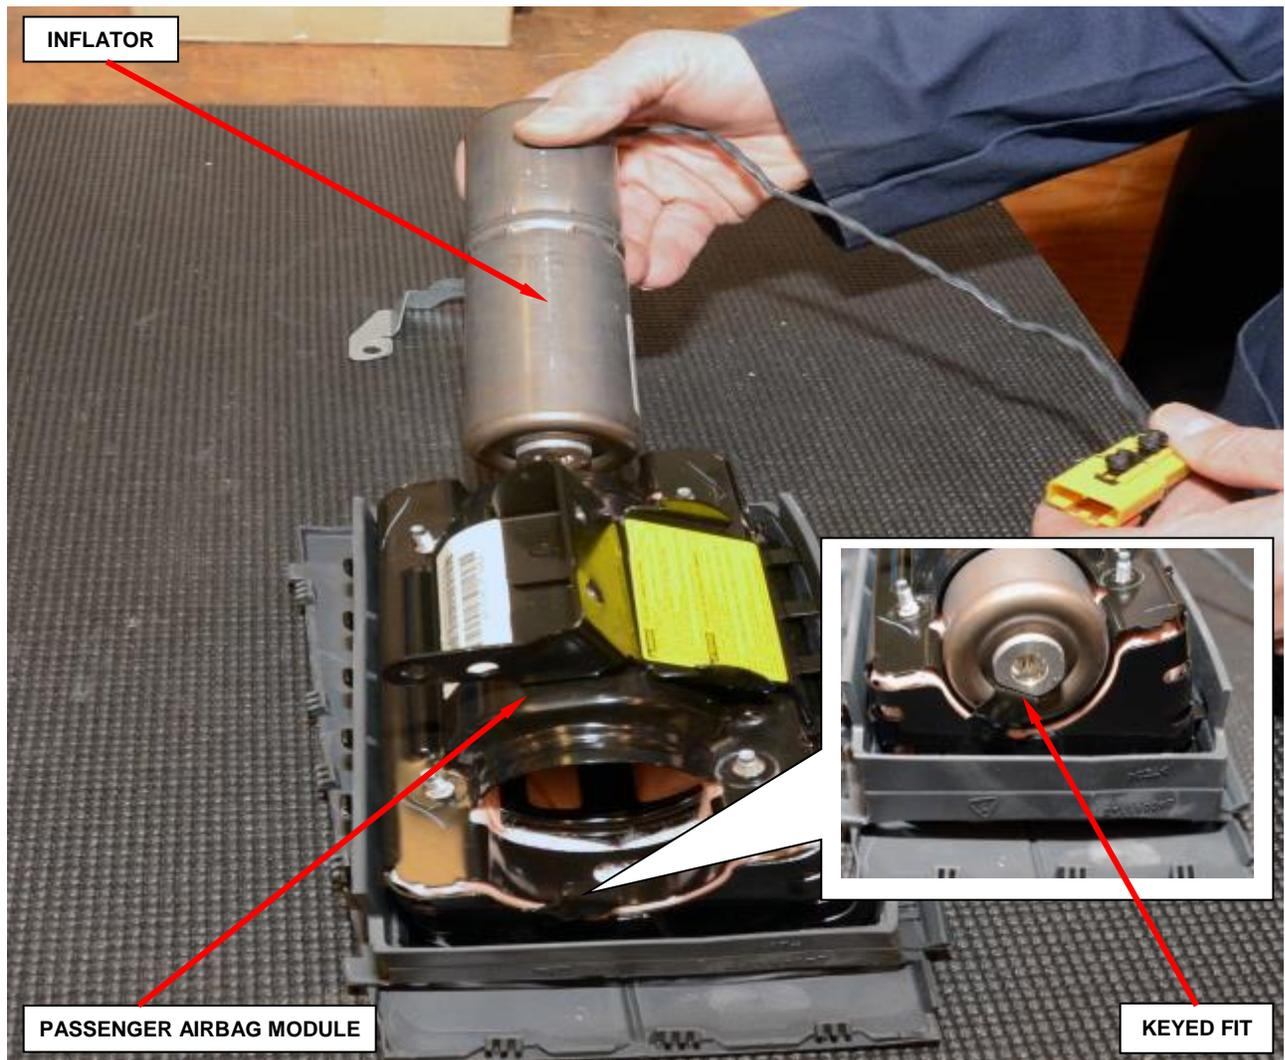

Figure 88 – Passenger Inflator Installation
g. Slide the **new** inflator into the passenger airbag module (Figure 88).
NOTE: The inflator is keyed to fit into the housing (Figure 88).